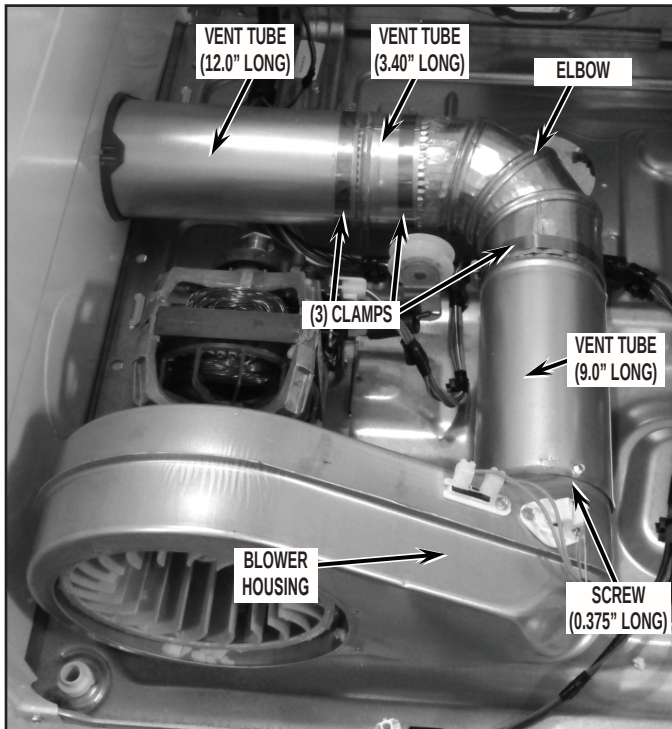
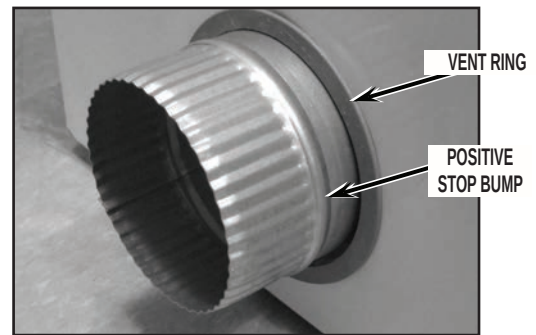

FIGURE 21
FIGURE 22
5. Attach the 305 mm (12.0") long vent tube, the 86 mm (3.40"), and elbow from kit together using clamps included in kit. Tighten clamp to hold sub assembly together. See *Figure 21*.
6. Insert the sub-assembly from Step #5 into the left side knockout hole, rib-end facing out. Slide a clamp onto the elbow and attach elbow end to the 229 mm (9.0") vent tube already in the dryer, attached to the blower. See *Figure 21*.
7. From the outside of the dryer, install the vent ring included with kit by sliding over exhaust vent tube and snap into place. See *Figure 22*.
8. Assure the positioning of the exhaust vent assembly, making sure the positive stop bump on the 305 mm (12.0") long vent tube is on the outside of the dryer. See *Figure 22*. Securely tighten both clamps. See *Figure 21*.